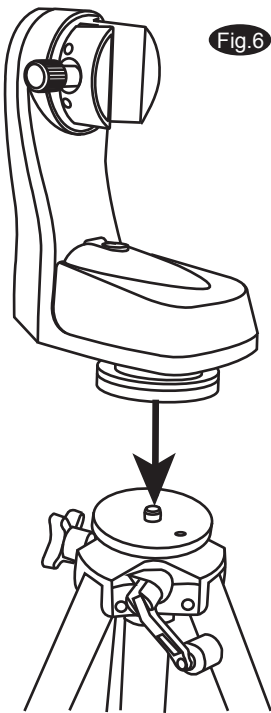

Fig.6
1. Next you will attach your Multi-function mount to the tripod. Locate the 3/8" threaded bolt in the top of the tripod platform. Then, find the mating 3/8" threaded hole underneath the Fork Arm Base. Thread the 3/8" bolt of the tripod platform into the 3/8" threaded hole in the fork arm base until it is good and tight (Fig.6).